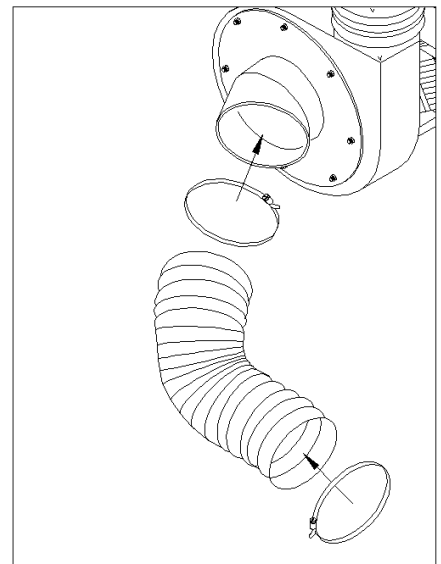

Fig. 9
8. Attach chute (42) to mower deck. Attach intake hose to chute and inlet (6). Secure each end with 6" band clamp (25). **Fig. 9**